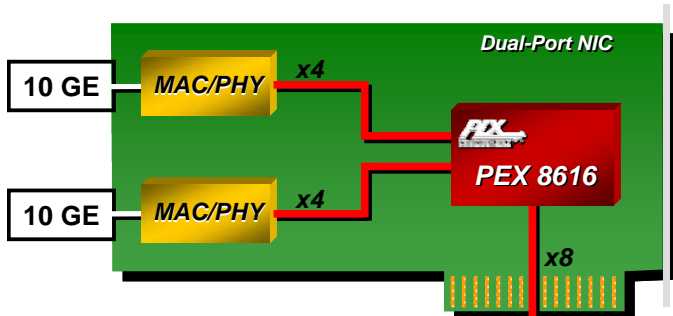

Figure 4. 10GE NIC Fan-Out
The PEX 8616 can also be utilized in communications applications such as Network Interface Cards (NICs). NICs, like the one shown in Figure 4, can utilize the PEX 8616 for its fan-out capabilities. In the example below, the PEX 8616 is being used on a Dual-port 10-Gigabit Ethernet (GE) NIC card. The PEX 8616 utilizes a x8 link to connect to the host and two x4 downstream links to fan-out to the 10GE ports. The peer-to-peer communication feature of the PEX 8616 allows the endpoints to communicate with each other without any intervention or management by the host.